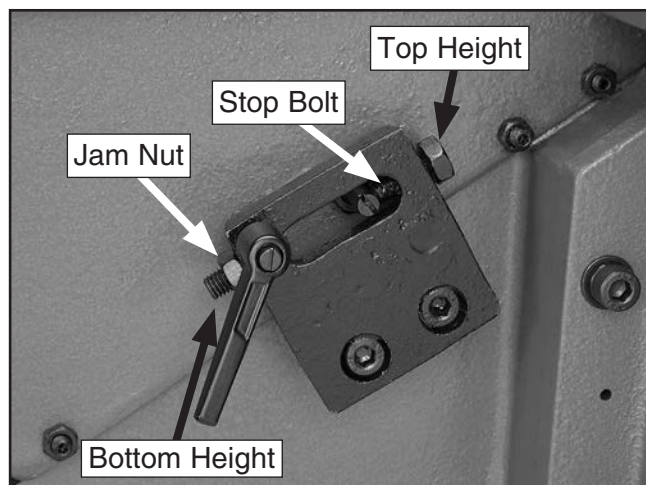

Figure 55. Positive stop bolts for infeed table.
3. Loosen the jam nut on the top height positive stop bolt (**Figure 55**) and raise the bolt so it does not obstruct the infeed table when it is raised in **Step 5**.
Each positive stop bolt (**Figure 55**) controls the top or bottom range of the table movement. The jam nuts lock the positive stop bolt in position so it won't move during operation.